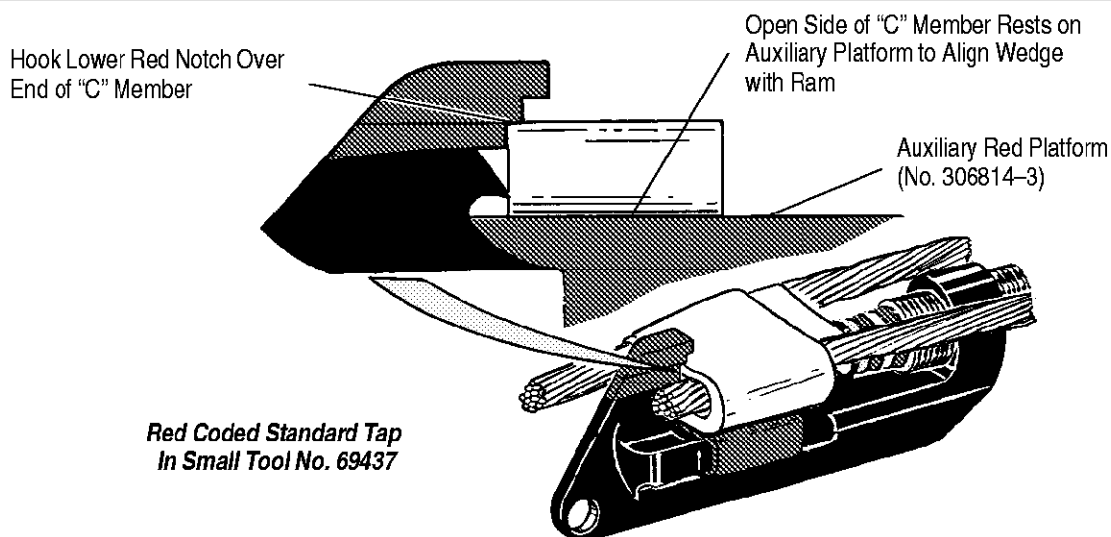

Figure 20
- RED coded standard tap or stirrup must be positioned in lower red notch as shown in Figure 20.